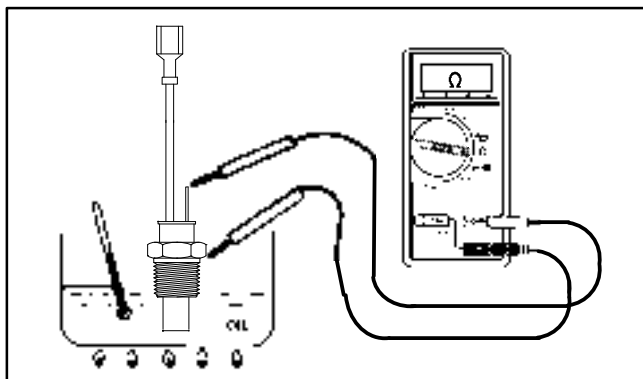

Figure 72
3. Put the end of the switch in a container of oil with a thermometer and slowly heat the oil (Fig. 72).